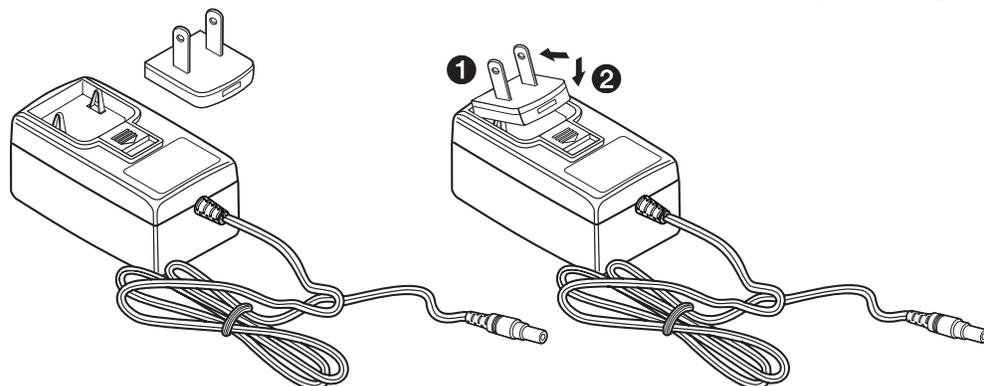

Figure 5. Inserting the Plug Into the eLink 100 Power Supply
1. Slide the tab at the top of the power plug under the top edge of the recess in the power supply (see figure 5, ①).
2. Press down on the plug until it snaps into place in the power supply recess (②).